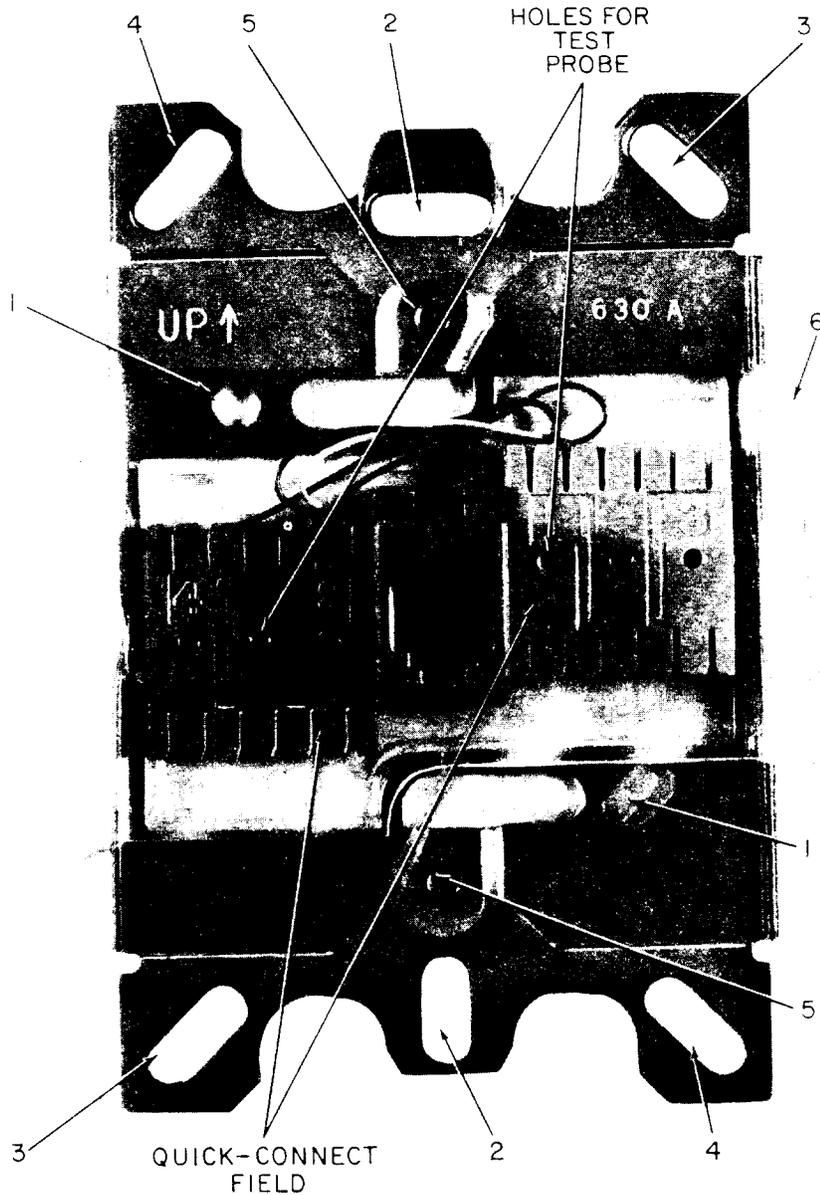

Fig. 17—630A4 Connecting Block (Without Mounting Plate) (See Note)
install the block using holes designated in Fig. 17. Refer to paragraph 4.01 for connections.
4.01 The 630-type connecting blocks may be used with exposed or concealed station wire. Each quick-connect terminal (total of four) provides three station wire terminations per lead. One termination is required for the jack conductor. An access for a test point is also provided (Fig. 17).